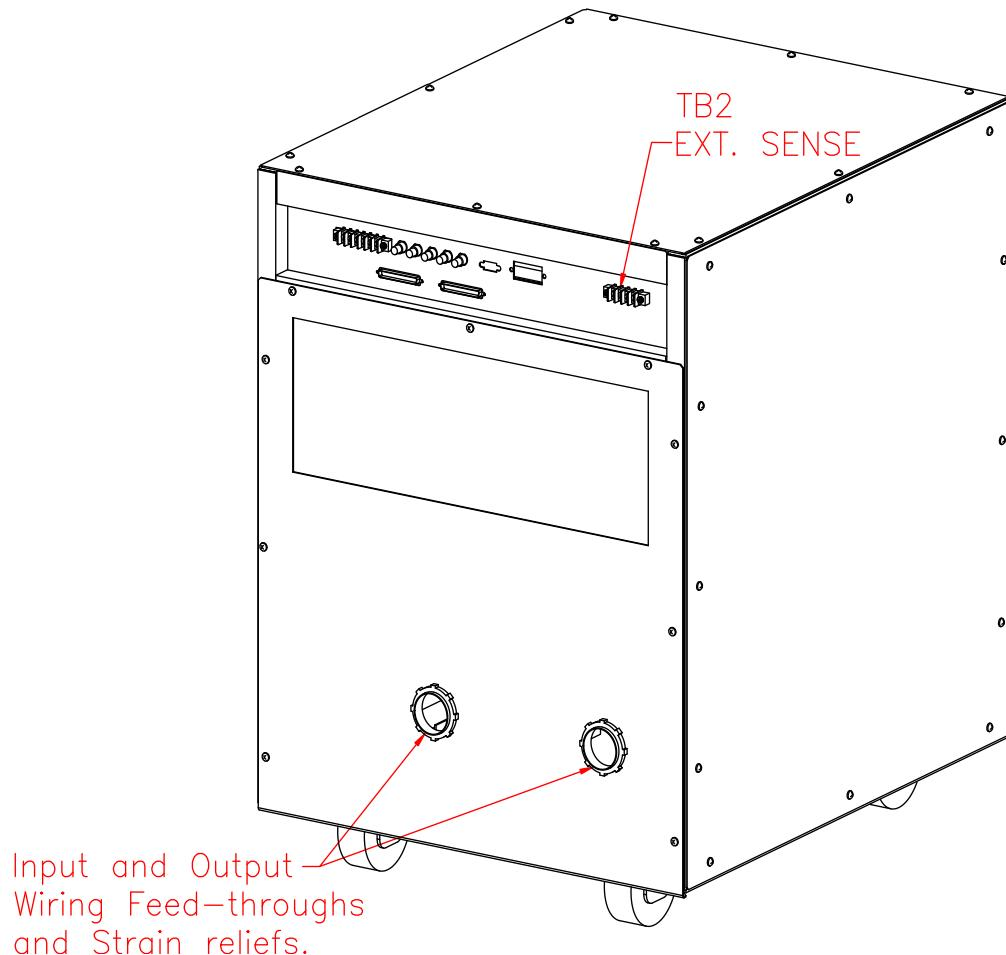
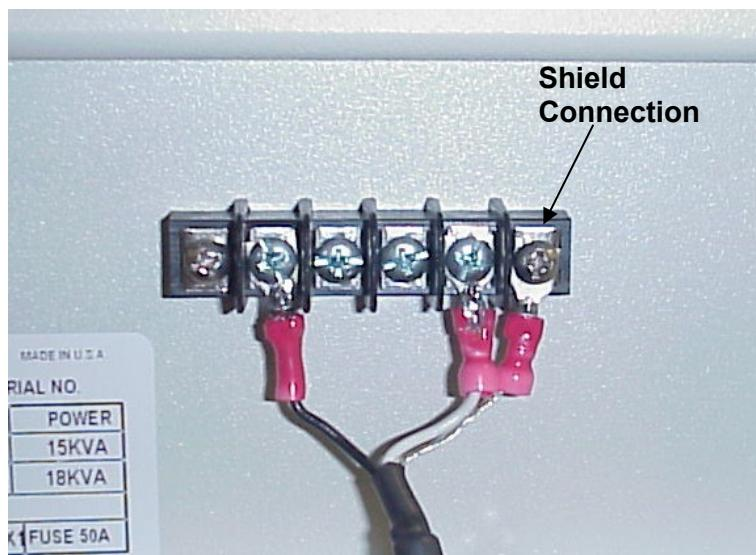

Figure 3-4: Rear Panel
Figure 3-5: External sense cable shield connection to chassis ground
No wiring for AC input connections is provided with the MX Series and must be provided by the end user or installer. Input wiring should be entered through the right-hand side (when facing the back of the MX cabinet, see Figure 3-4) wire access opening located at the rear bottom of the MX15 chassis.
The external sense inputs allow the power system output voltages to be monitored directly at the load and must be connected at TB2 when the sense is programmed for external. The external sense input does not have to be connected when Internal Sense is programmed. The external sense wires are to be connected to TB2 on the rear panel and should be run using a twisted shielded cable. See Figure 3-4 for location of TB2 and Figure 3-5 for shield connection detail.
***Note: For External Sense connection, a shielded cable MUST be used with the shield connected to chassis ground at the Ext. Sense connector. (See Figure 3-5).***